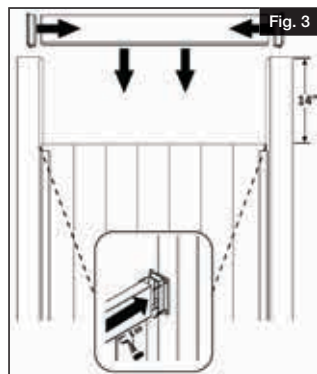

Fig. 3
- Slide brackets onto top rail and place rail on top of vertical tongue and groove boards (Fig. 3).
- Mount brackets to posts using included 4 screws per bracket. Insert white screw head caps to hide screws (Fig. 3).